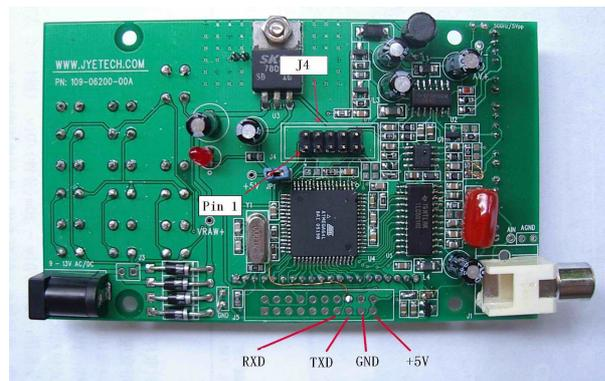

Fig. 1
- 1) Identify the programming header (J4) and its orientation (Fig. 1 and Fig 2).
- 1) Connect serial level converter to the serial port pins (shown in Fig. 1) of the scope board.